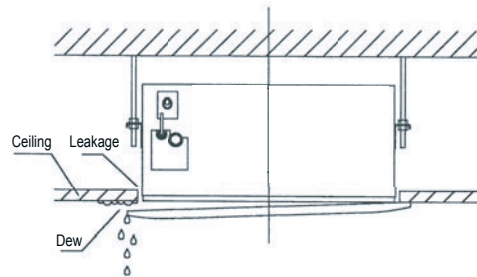

Fig.5-31
- Malfunction described in Fig.5-31 can be caused by inappropriate tightness the screw.